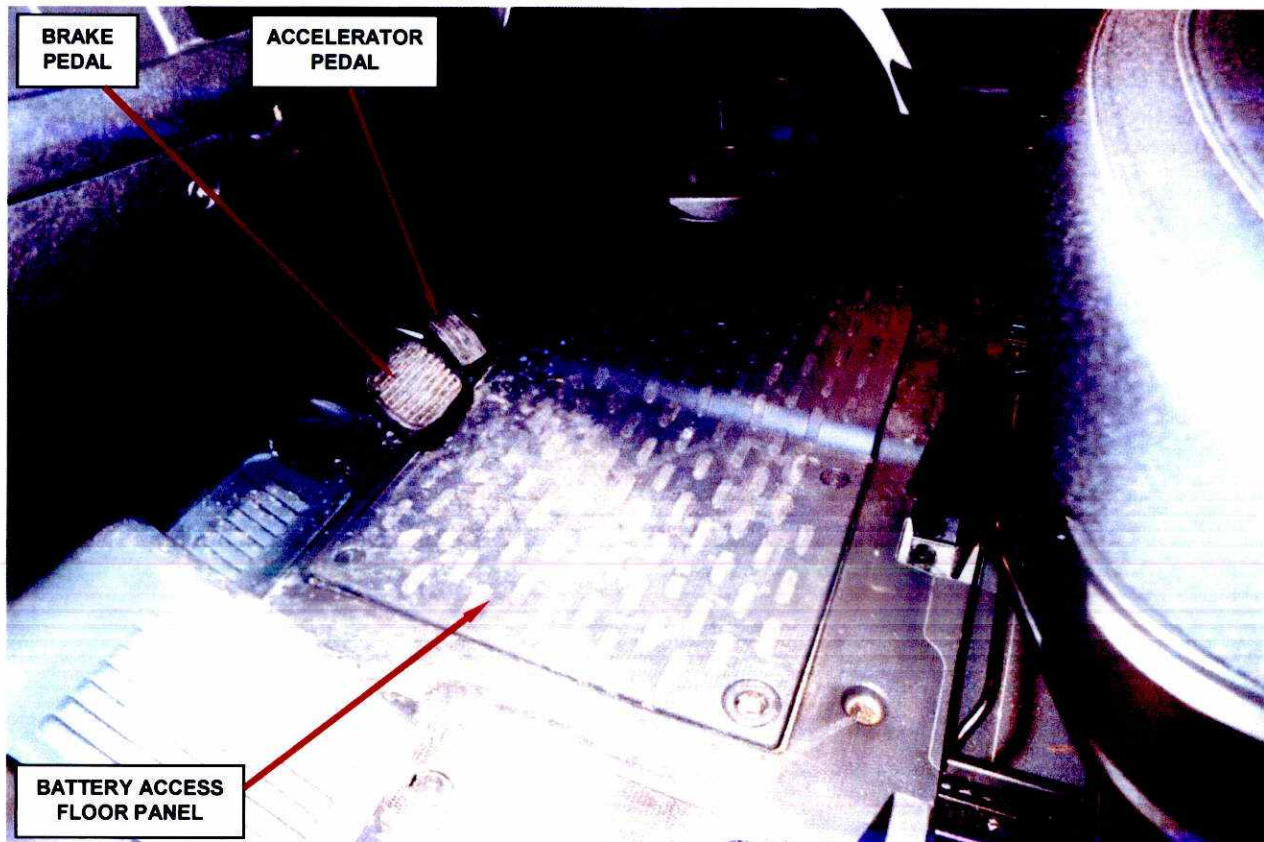

Figure 1 – Battery Access Floor Panel
1. Remove and save the battery access floor panel (Figure 1).
19. Install the battery access floor panel (Figure 1).